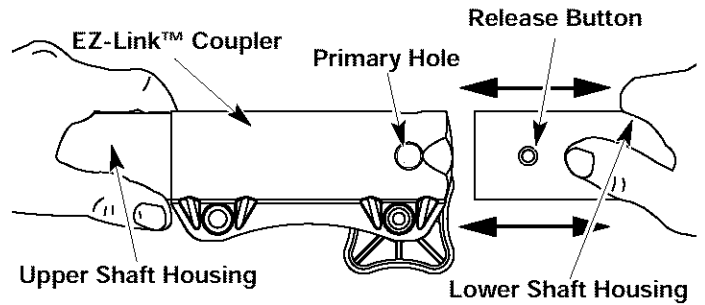

Fig. 15
3. While firmly holding the upper shaft housing, pull the cutting attachment or add-on straight out of the EZ-Link™ coupler (Fig. 15).
2. While firmly holding the add-on, push it straight into the EZ-Link™ coupler (Fig. 15).